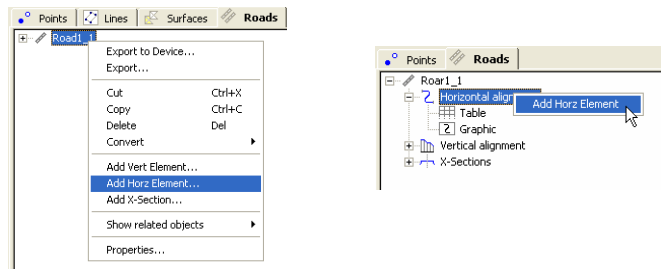

Figure 9-42. Adding Horizontal Element Through the Left Panel
Figure 9-42 shows the list of horizontal alignment elements, the horizontal alignment plot, and the starting station of each element. The CAD View also displays the horizontal alignment plot.
- In the left panel, right-click the road or the horizontal alignment and click **Add Horz Element** (Figure 9-42).